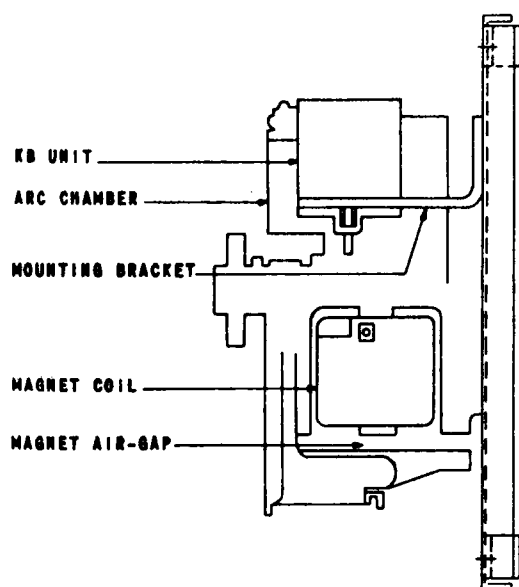

FIG. 3 END VIEW OF KS-5626 CONTACTOR
5.5 To measure the contact pressure of the KB unit contacts, disconnect the 9 and 10 contacts from the coil and connect the buzzer to indicate contact opening. Apply the reed of the 70J gauge under the plunger with the KB unit in place (see Figure 3) and measure for a minimum pressure of 100 grams. It may be necessary to replace this unit if the requirement is not met.